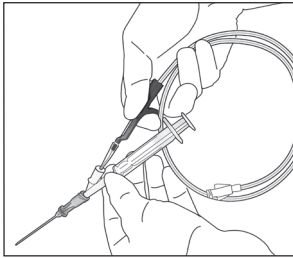

Figure 4
- Hold introducer needle or catheter with Y-hub in place securely. Place tip of Arrow Advancer – with J- tip or angled-tip retracted into the tip straightener into the Y-hub (refer to Figure 4).